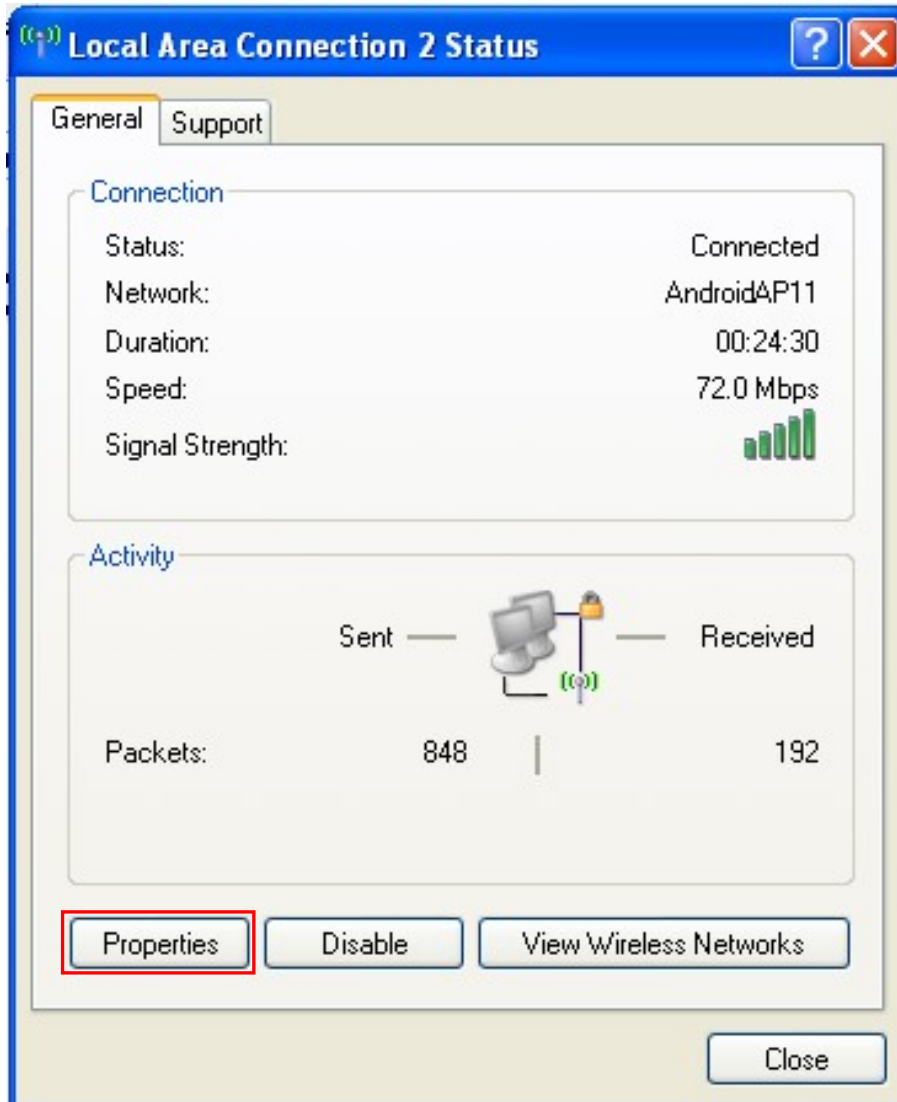

Figure 6
- (1) Click "Properties" in the window of "Local Area Connection 2 Status". (Get reference in figure 6)